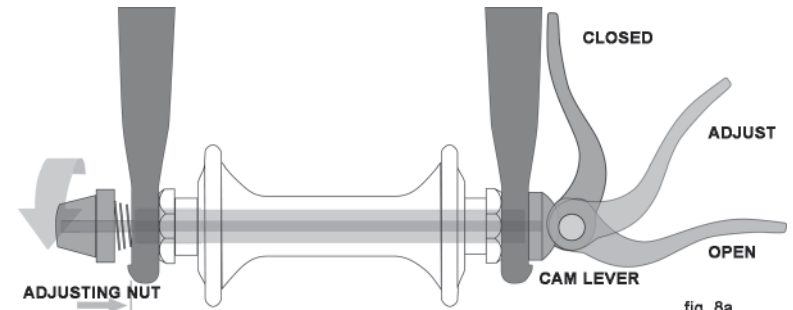
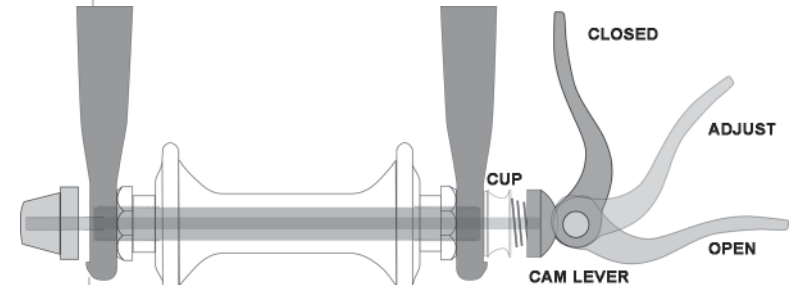
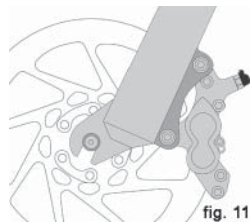
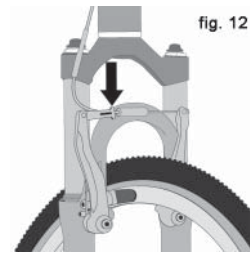

fig. 8a
fig. 8b
fig. 11
fig. 12
There are currently two types of over-center cam wheel retention mechanisms: the traditional over-center cam (fig. 8a) and the cam-and-cup system (fig. 8b). Both use an over-center cam action to clamp the bike's wheel in place. Your bicycle may have a cam-and-cup front wheel retention system and a traditional rear wheel cam action system.
a. Adjusting the traditional cam action mechanism (fig. 8a)
b. Adjusting the cam-and-cup mechanism (fig. 8b)
(1) If your bike has rim brakes, disengage the brake's quick-release mechanism to increase the clearance between the tire and the brake pads (See Section 4.C fig. 11 through 15).
(2) If your bike has cam action front wheel retention, move the cam lever from the locked or CLOSED position to the OPEN position (figs. 8a & b). If your bike has through bolt or bolt-on front wheel retention, loosen the fastener(s) a few turns counter-clockwise using an appropriate wrench, lock key or the integral lever.
(3) If your front fork has a clip-on type secondary retention device, disengage it. If your front fork has an integral secondary retention device, and a traditional cam action system (fig. 8a) loosen the tension adjusting nut enough to allow removing the wheel from the dropouts. If your front wheel uses a cam-and-cup system, (fig. 8b) squeeze the cup and cam lever together while removing the wheel. No rotation of any part is necessary with the cam-and-cup system.
(1) If your bike has cam action front wheel retention, move the cam lever so that it curves away from the wheel (fig. 8b). This is the OPEN position. If your bike has through bolt or bolt-on front wheel retention, go to the next step.
(2) With the steering fork facing forward, insert the wheel between the fork blades so that the axle seats firmly at the top of the fork dropouts. The cam lever, if there is one, should be on rider's left side of the bicycle (fig. 8a & b). If your bike has a clip-on type secondary retention device, engage it.
(3) If you have a traditional cam action mechanism: holding the cam lever in the ADJUST position with your right hand, tighten the tension adjusting nut with your left hand until it is finger tight against the fork dropout (fig. 8a). If you have a cam-and-cup system: the nut and cup (fig. 8b) will have snapped into the recessed area of the fork dropouts and no adjustment should be required.
(4) While pushing the wheel firmly to the top of the slots in the fork dropouts, and at the same time centering the wheel rim in the fork:
(a) With a cam action system, move the cam lever upwards and swing it into the CLOSED position (fig. 8a & b). The lever should now be parallel to the fork blade and curved toward the wheel. To apply enough clamping force, you should have to wrap your fingers around the fork blade for leverage, and the lever should leave a clear imprint in the palm of your hand.
(2) If your bike has rim brakes, disengage the brake's quick-release mechanism to increase the clearance between the wheel rim and the brake pads (see Section 4.C, figs. 11 through 15).
(3) On a derailleur gear system, pull the derailleur body back with your right hand.
(4) With a cam action mechanism, move the quick-release lever to the OPEN position (fig. 8b). With a through bolt or bolt on mechanism, loosen the fastener(s) with an appropriate wrench, lock lever or integral lever; then push the wheel forward far enough to be able to remove the chain from the rear sprocket.
(5) Lift the rear wheel off the ground a few inches and remove it from the rear dropouts.
Some bikes are equipped with a cam action seat post binder. The seat post cam action binder works exactly like the traditional wheel cam action fastener (Section 4.A.2) While a cam action binder looks like a long bolt with a lever on one end and a nut on the other, the binder uses an over-center cam action to firmly clamp the seat post (see fig. 8a).
3. Some bicycle brakes, such as disc brakes (fig. 11) and linear-pull brakes (fig. 12), are extremely powerful. Take extra care in becoming familiar with these brakes and exercise particular care when using them.
Most rim brakes have some form of quick-release mechanism to allow the brake pads to clear the tire when a wheel is removed or reinstalled. When the brake quick release is in the open position, the brakes are inoperative. Ask your dealer to make sure that you understand the way the brake quick release works on your bike (see figs. 12, 13, 14 & 15) and check each time to make sure both brakes work correctly before you get on the bike.